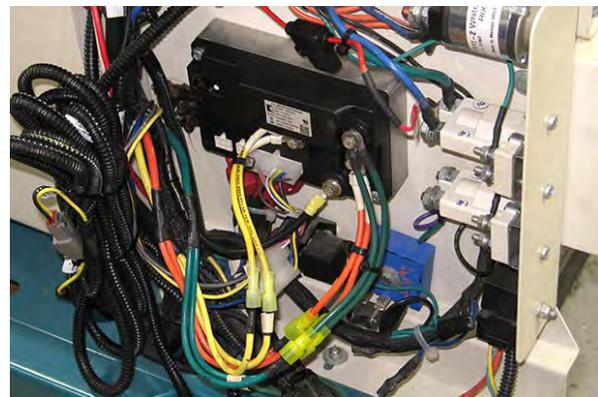
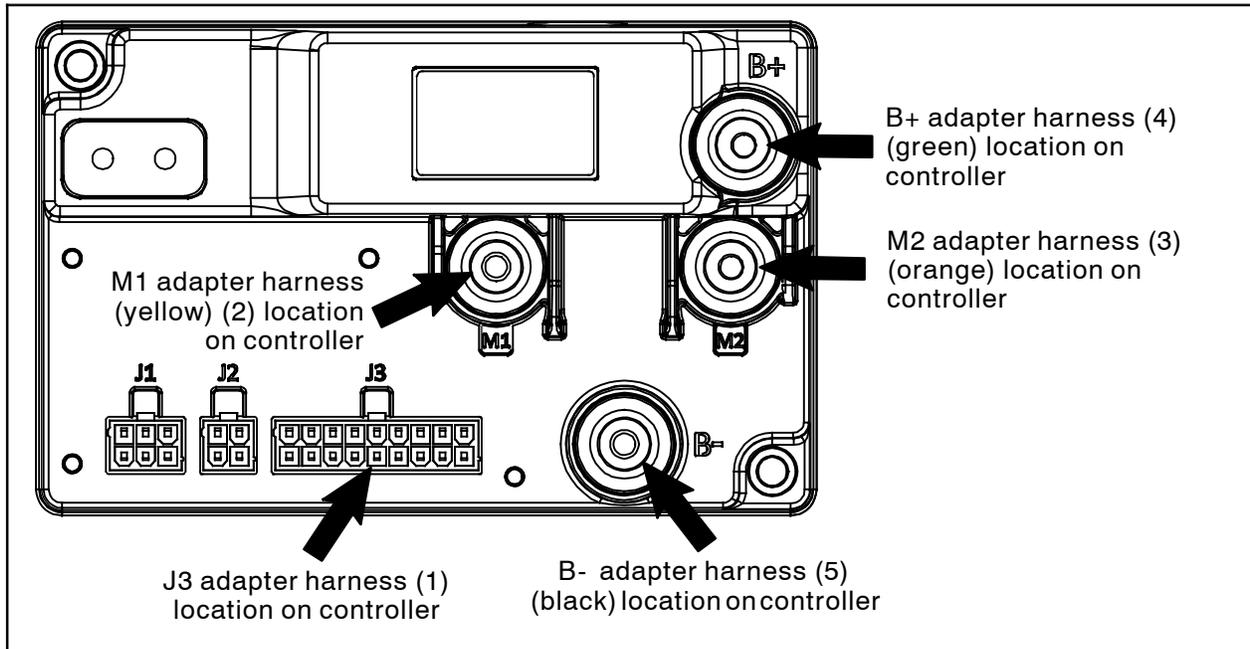

FIG. 9
FIG. 10
10. Connect the J3 harness adapter (1) to the main wire harness connector previously connected to terminal J3 on the removed controller.
11. Connect the M1 harness adapter (2) to the main wire harness connector previously connected to terminal M1 on the removed controller.
12. Connect the M2 harness adapter (3) to the main wire harness connector previously connected to terminal M2 on the removed controller.
13. Connect the B+ harness adapter (4) to the main wire harness connector previously connected to terminal B+ on the removed controller.
14. Connect the B- harness adapter (5) to the main wire harness connector previously connected to terminal B- on the removed controller.
15. Connect the J3 harness adapter (1) to the controller (6) terminal J3. (Fig. 9/ Fig. 10)
16. Use an M5 hex screw (8) and a flat washer to connect the M1 harness adapter (2), M2 harness adapter (3), B+ harness adapter (4), and B- harness adapter (5) to the controller (6). Refer to marked locations on the controller for where the adapter harnesses should be connected. (Fig. 9/ Fig. 10)
17. Check all previously install adapter harnesses to ensure they are connected to the correct location on the controller. (Fig. 10/ Fig. 11)
18. Use cable ties (11) to secure the various adapter harnesses away from any moving parts or areas where the harnesses could potentially be damaged.